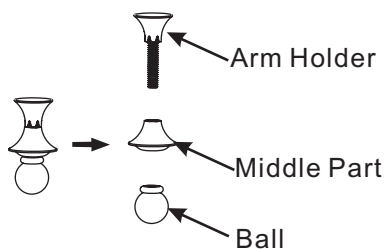

Figure 2
- A. Take apart Finial (J) as Figure 2 shown.